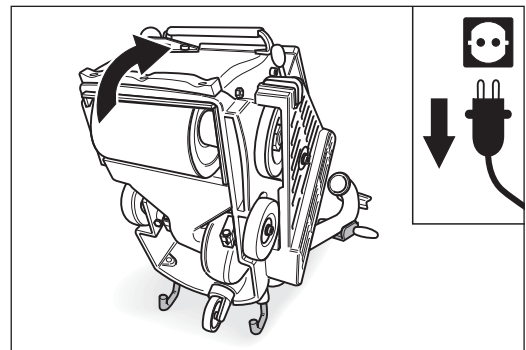

Fig. 73 To check the machine setting, tilt the machine backwards. **Ensure that the machine is standing securely!**
- 2 Tilt the machine backwards over the safety guards so that you can see the wheel bearings (Fig. 73). **Ensure that the machine is standing securely!**
- 5 Tilt the machine backwards over the safety guards (Fig. 73). **Ensure that the machine is standing securely!**